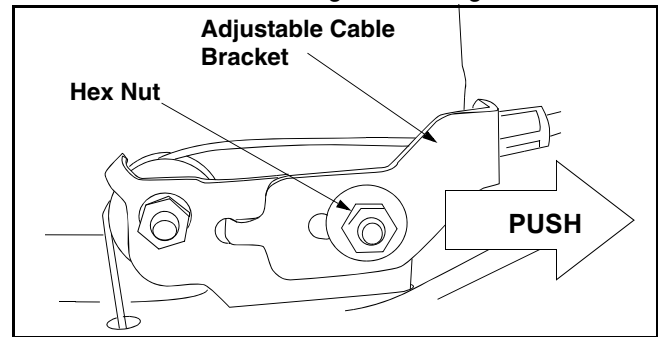

Figure 13
The adjustable cable bracket is located on the left side of the mower beside the engine. See Figure 13.
- Loosen hex nut which secures the adjustable cable bracket. See Figure 13.